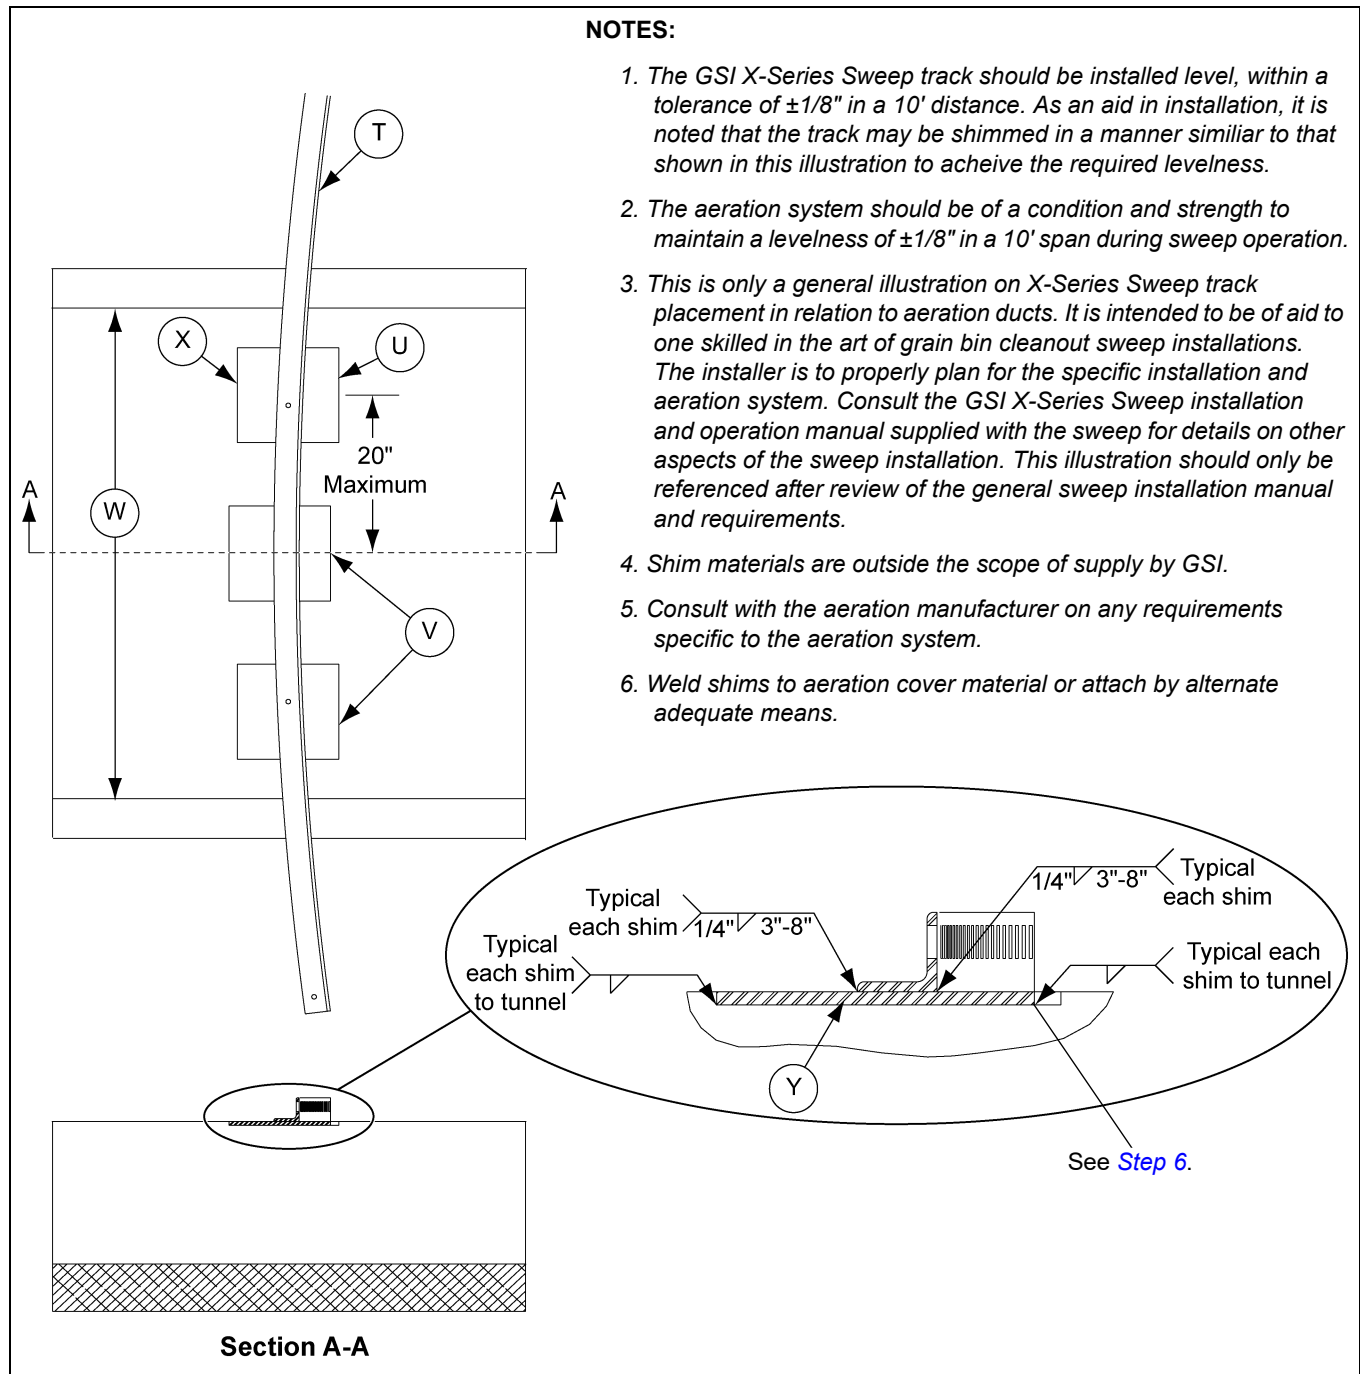

Figure 5E Aeration Tunnel Track Support Information
14. The track should be installed level. Add shims (X) as needed between the track (T) and the aeration tunnel (W) locations to achieve the required levelness. (See Figure 5E.)